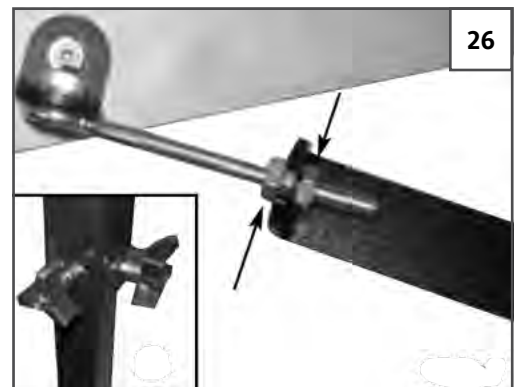

FIGURE 26: ADJUSTING THE BRACES
6. If you notice sag or if the extension table is not level with the main table, adjust the height of the support leg to support the added weight of the boom/hood assembly. See inset of Figure 26.
7. You can adjust the diagonal braces. Tighten or loosen the nuts on the eyebolts as needed to level the boom assembly. See Figure 26.